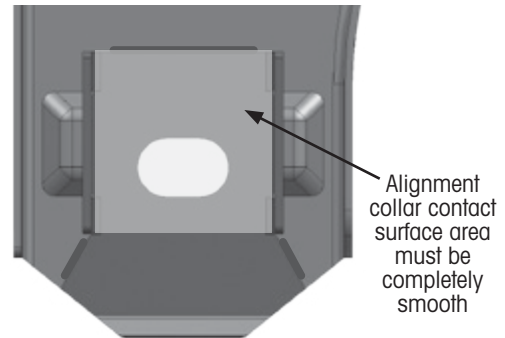

Figure 10: Alignment collar contact surface area
1. **Smooth** the surface on the patch plates to remove all weld spatter where the collars contact the surface, Figure 10.